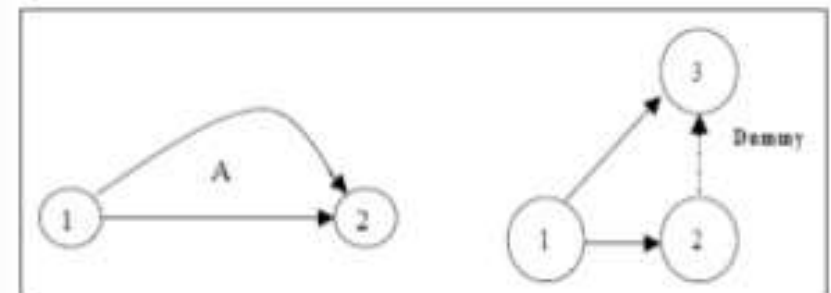

Figure 8.8: Only One Start and End Event
c. In a network, there should be only one start event and one ending event as shown below, in Figure 8.8.